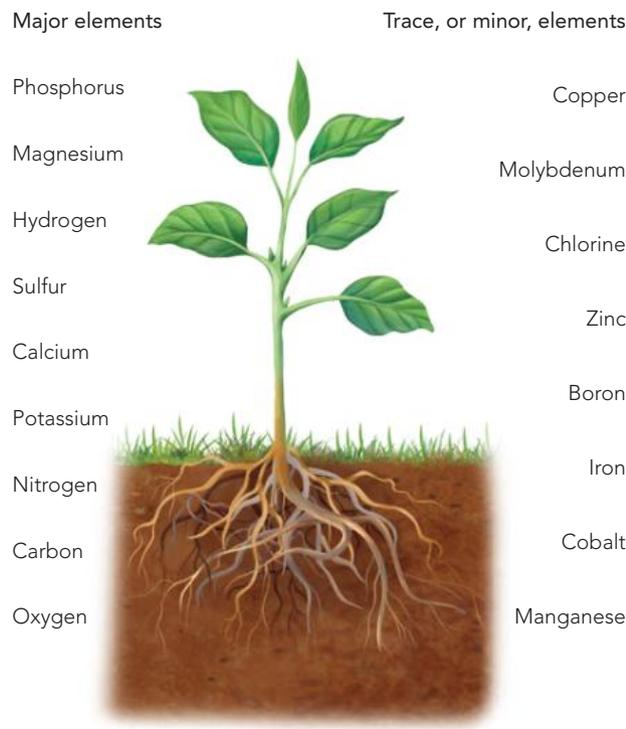

Figure 15.27 Plant mineral requirements
Plants require a number of essential nutrients for growth and development. Both the soil and the atmosphere can supply these nutrients. To replace nutrients lost from a farming system, many farmers add nutrients in the form of fertilisers. Figure 15.27 illustrates the minerals required by plants in large amounts (major elements) and those that are essential but only in small amounts (trace elements).
- 30** Redraw Figure 15.27, which shows the mineral needs of plants.